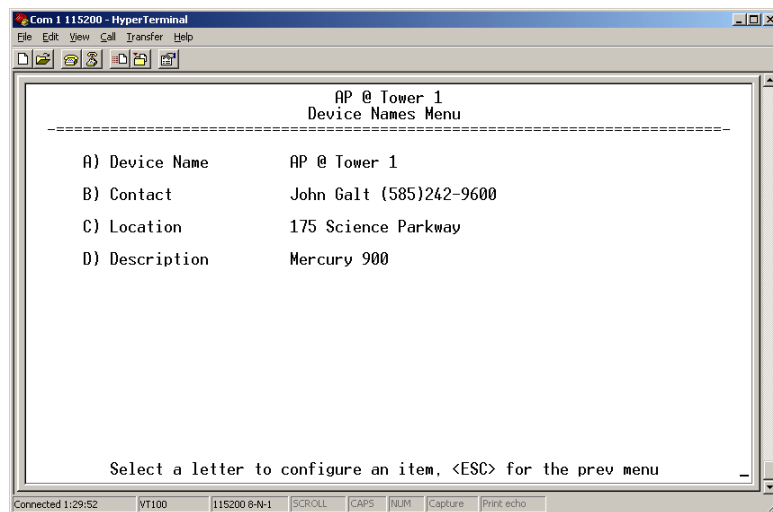

Figure 3-12. Device Names Menu
- **Device Names**—Fields used at user’s discretion for general administrative purposes. The Device Name field is shown on all menu screen headings. (See Figure 3-12 on Page 42)